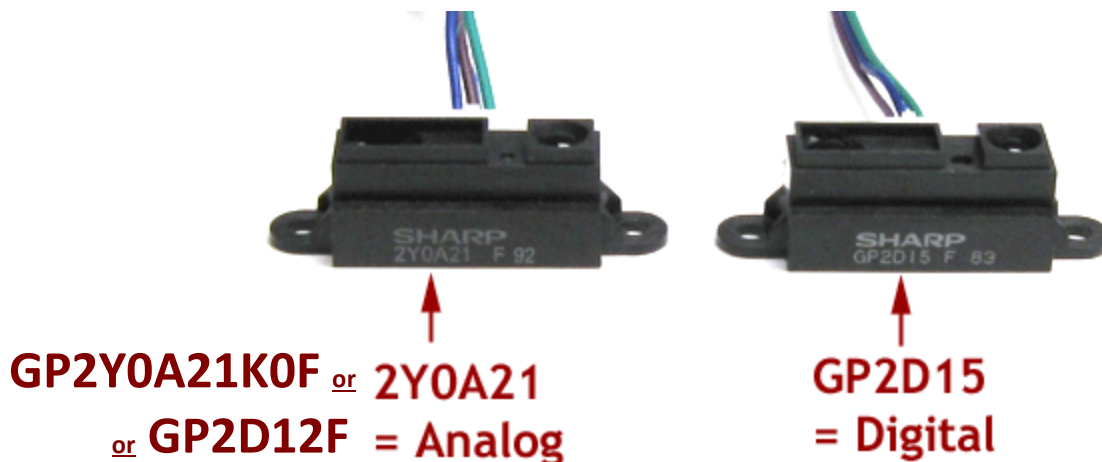

Figure 3. Identifying analog and digital front sensors.
Before moving ahead, carefully inspect the code printed on the bottom of the front sensor, referring to Figure 3. If you have the newer analog sensors, you may proceed with the instructions in this tutorial.
**1. Using two ½" 4-40 machine screws and two 4-40 machine screw nuts, secure the sensor to the lowest slot on the front of the chassis, as shown in Figure 3.**